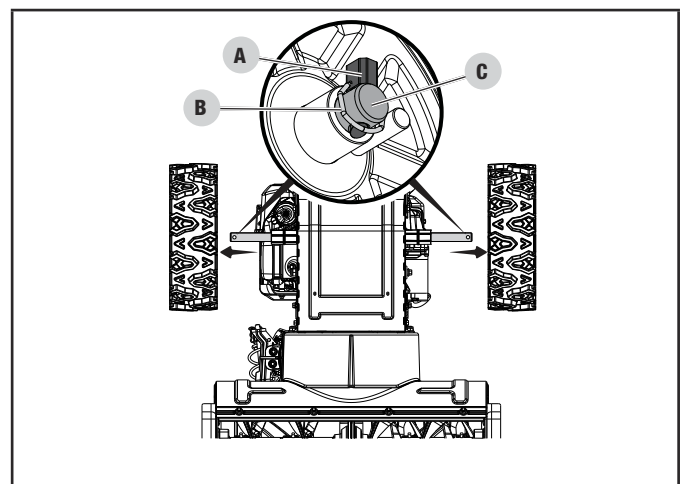

Figure 41
2. To make the access to servicing or replacing the friction disc, remove the wheels from both sides. For each wheel, locate the pin (A) holding the wheel on. Take note of the orientation of the pin, with short side of beveled end toward the end of shaft, to facilitate the lift ring to swing closed. Lift the ring (B) around the axle (C) and then pull the pin (A) out holding the wheel on (Fig. 41). Repeat on the other side. Remove the wheels.